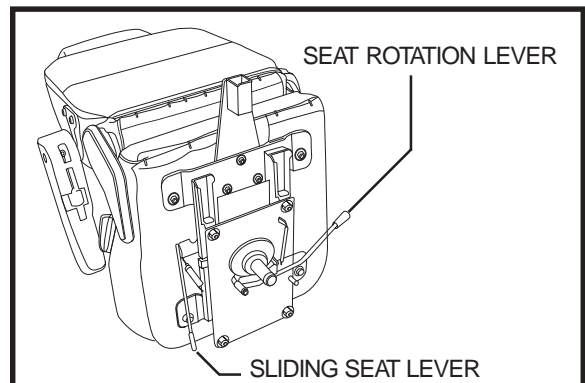

Figure 16. Seat Adjustments
1. Pull the seat sliding lever to the side. See figure 16.
1. Push forward on the seat rotation lever to unlock the seat. See figure 16.